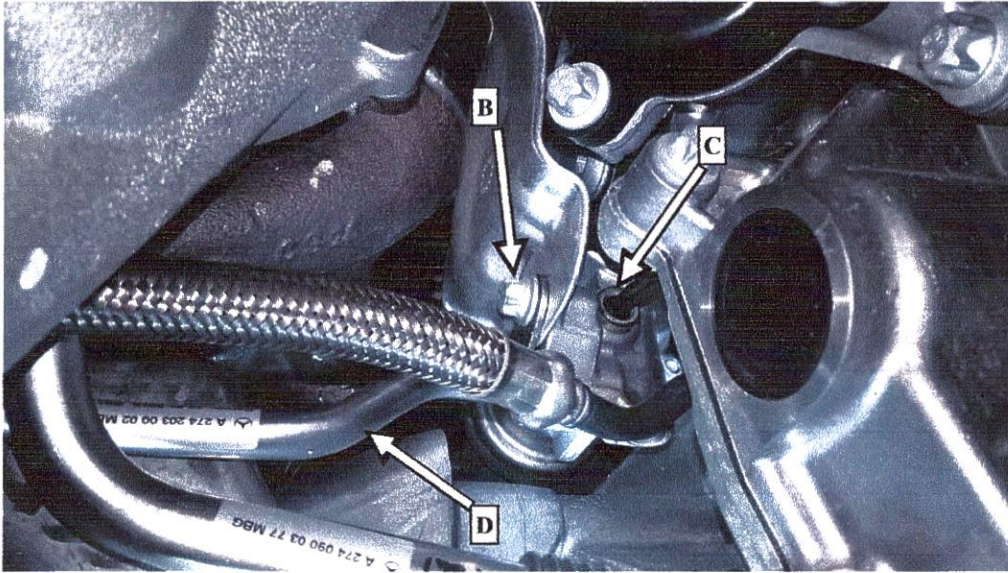
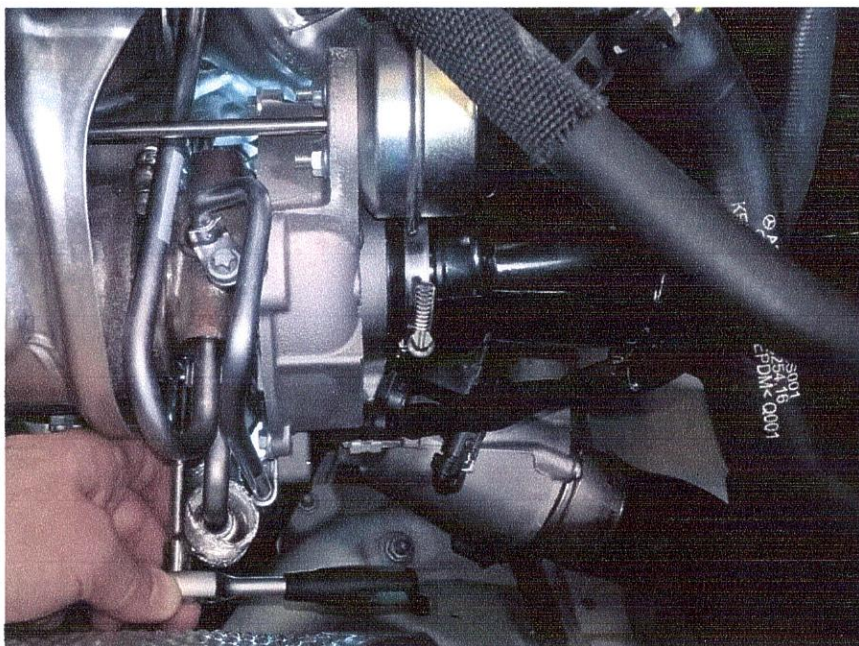

Figure 3
Figure 4
4.  Replace coolant line mounting bolt (B, Figure 3) with **new** bolt.
- **Be sure to use new coolant line mounting bolt: **M6x21 ONLY**.** Old bolt (B) must be disposed of.
-  Ensure that the coolant line (D) does not slip out *or* is not pulled out of the coolant pump.
- Refer to Figure 4 for view of bolt accessibility.
-  Ensure grease applied to adjusting piston (C) is **not** removed.